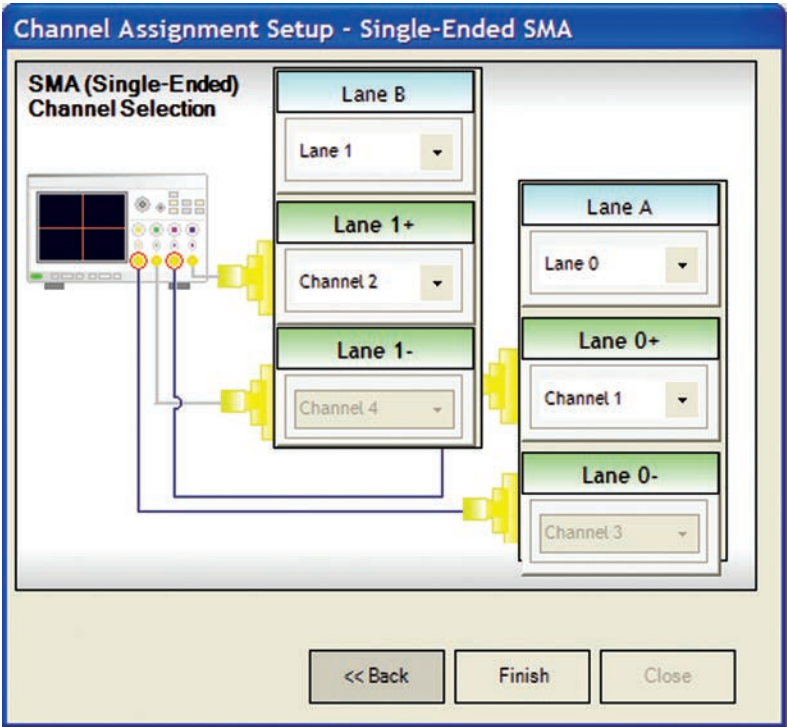

Figure 5. Channel Assignment Setup: Lane and oscilloscope assignment: Two Lane Single-ended Connection using all four scope channels.
- Oscilloscope connection: This screen allows you to assign oscilloscope channels and device lanes to test. See Figure 5.
The final screen in the Test Setup loop is the Channel Assignment Setup (shown in Figure 5). It will portray the connection expected in number of channels and type of connection requested. It is editable and if there are channel assignment conflicts, the user is alerted to the fact.